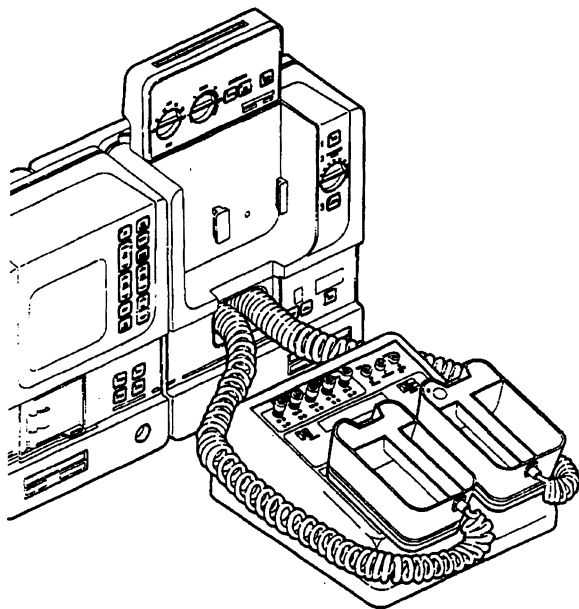

Figure 2.3. Defibrillator Energy Testing
- 5) Simultaneously press the two defibrillator paddles onto the contact electrode plates on the front of the QED-6 (*Figure 2.3*).